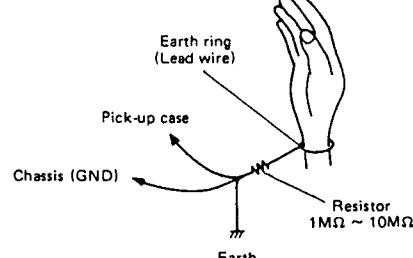

Fig. 4-2
- Before servicing the pickup assembly be sure to prevent electrostatic-inducer destruction by grounding not only test equipment in use but also yourself as shown in Fig. 4-2.